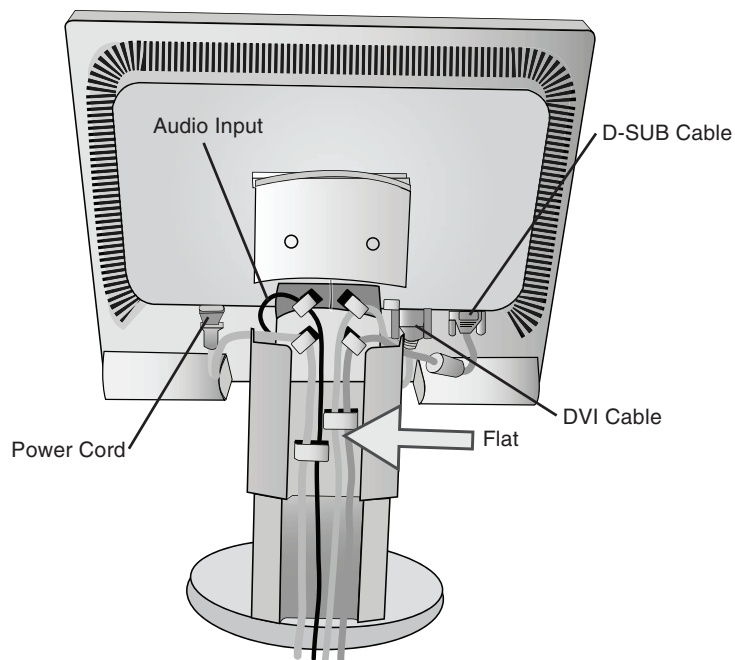
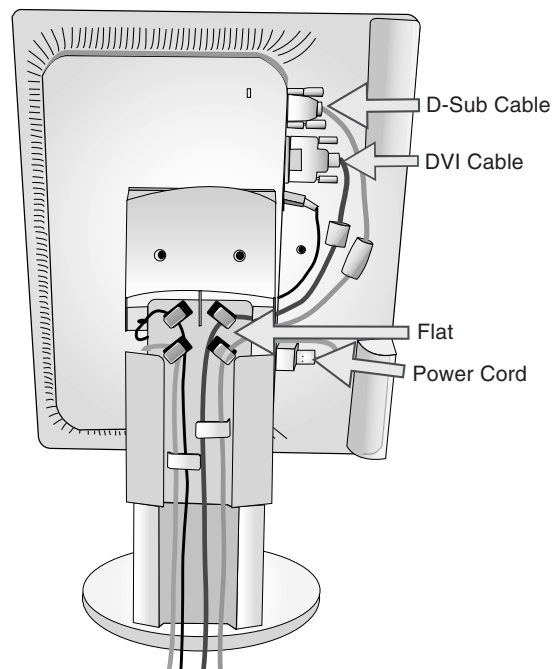

Figure C.2
Figure C.3
5. To keep the cables neatly organized, place them into the cable management system that is built into the stand. Place the Power cord into the specific hooks, as indicated in **Figure C.2/Figure C.3**. Place the D-Sub and the DVI cables into the specific hooks, as indicated in **Figure C.2/Figure C.3**.
6. Make sure all cables are resting flat against the stand (**Figure C.2**). Please check Tilt, Rise and Lower monitor screen and screen rotation when you manage cables.